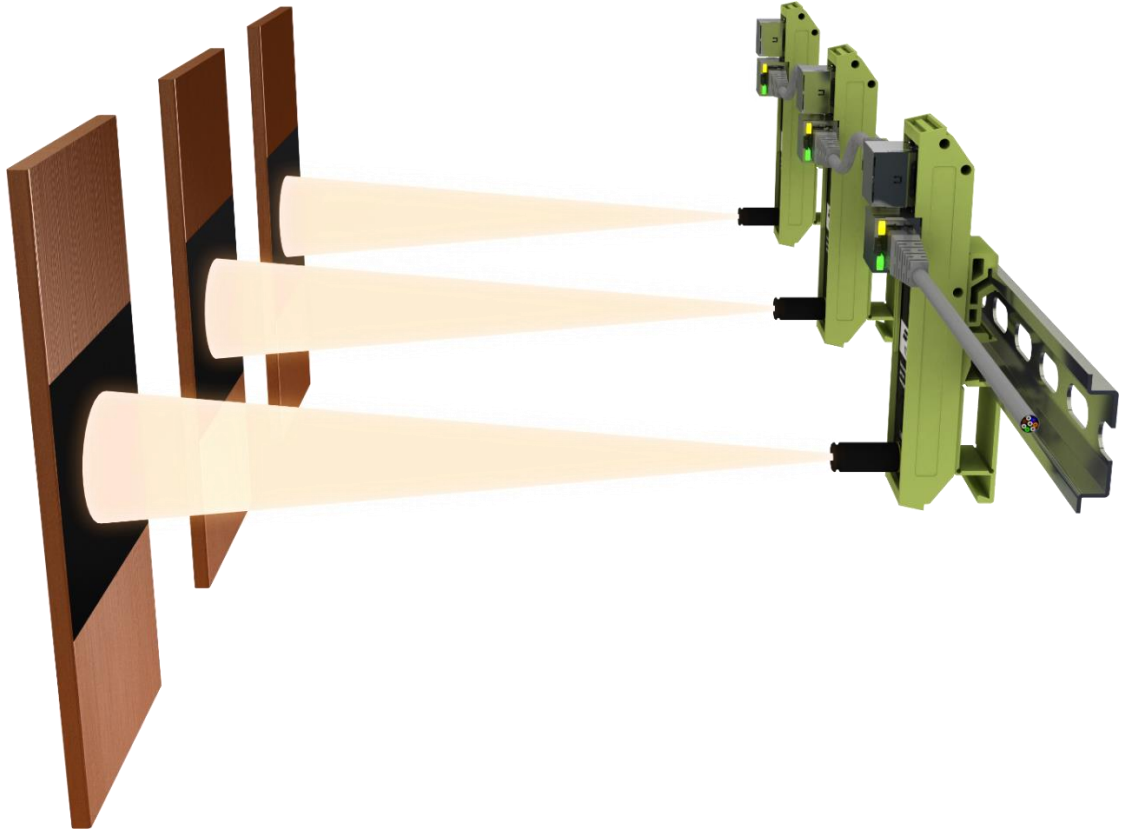

Figure 4.1. An example of busbars temperature measurement
4.5.3 An example of temperature measurement of busbars in a switchgear panel of electric substation is shown on figure 4.1.